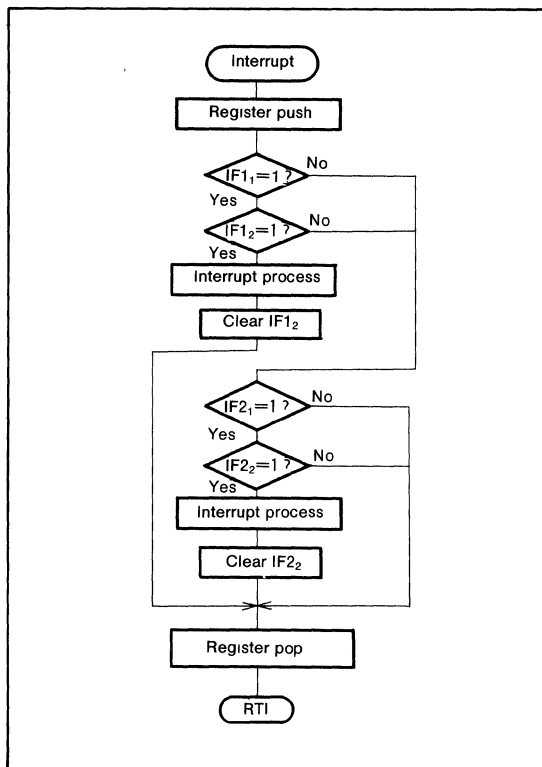

Fig. 33 Flow to write interrupt request distinguish registers
- ② To restart oscillation when it is stopped by STP instruction or unsystem clock operation bit, wait for a specified time which is needed for the oscillator to stabilize.
- (7) Some instructions can be used to write contents of the interrupt request distinguish register 1, 2. If the SEB or CLB instruction or a set of instruction that acts as the SEB or CLB instruction (for instance, LDA TC+SEB 7, A+STA TC) is used, an interrupt request which is input during execution of these instructions may be cleared. Therefore, these instructions should be used only when there is no problem even if such an interrupt request is cleared. Usually, the LDM instruction or STA instruction is used. Especially to write contents of the interrupt request distinguish register 1, 2, use the flow chart as shown in Figure 33.